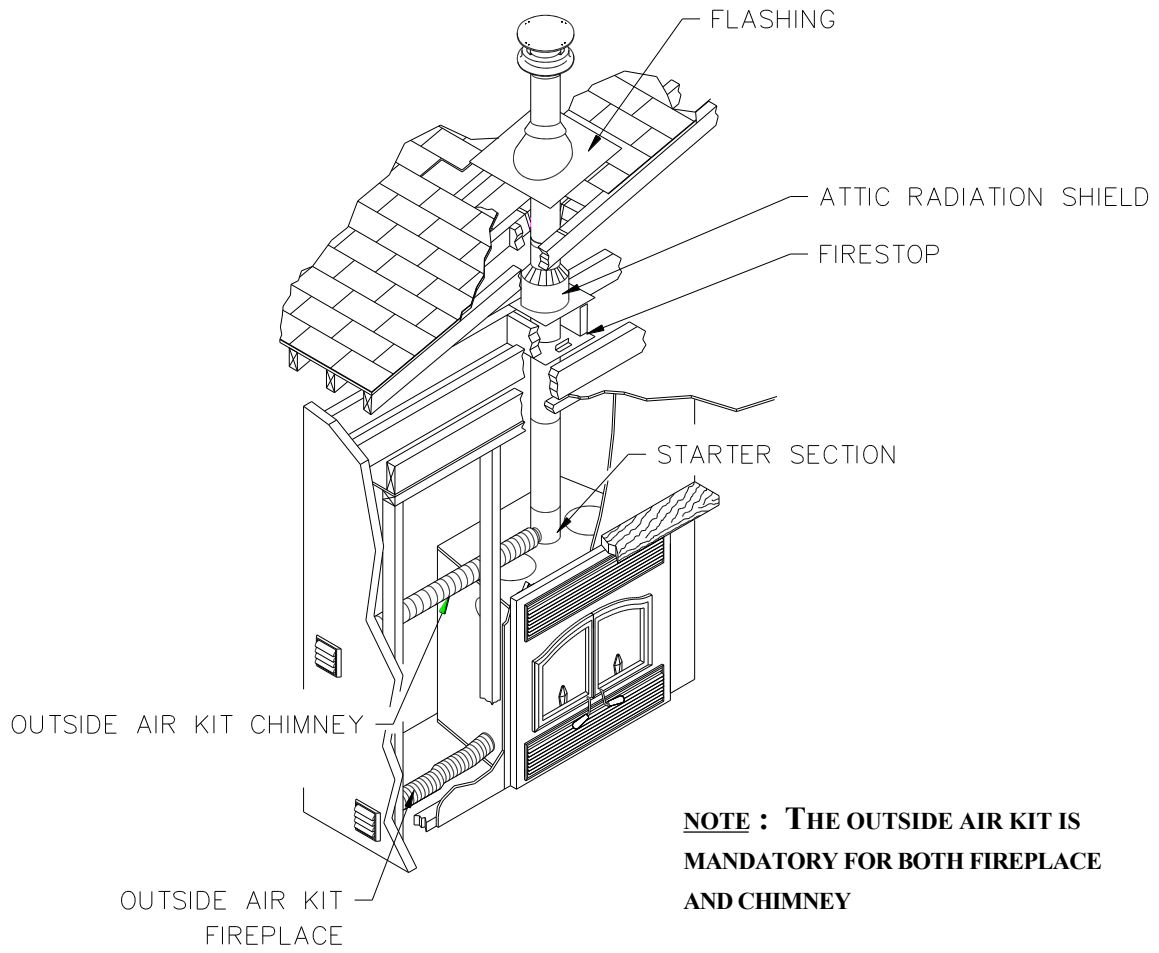

Figure 28
3. For Secure Temp^{ASHT+} / Nova Temp^{HT6103+} and Secure Temp^{S2100+} / Nova Temp^{HT6000+} chimneys, place the first chimney length on the fireplace. To lock it in place, turn $\frac{1}{4}$ of a turn clockwise. With the AC chimney, you must use a starter section before installing the first chimney length (figure 28). Continue installing chimney lengths making sure to lock each length in place.